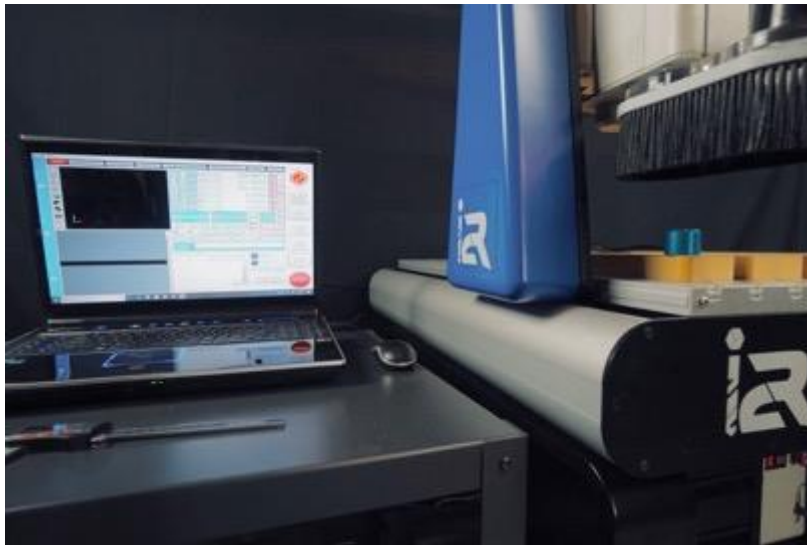

Figure 3: Locate control PC near to machine and control box
- 3) Locate and turn on laptop / PC to control machine next to the controller (see Figure 3)